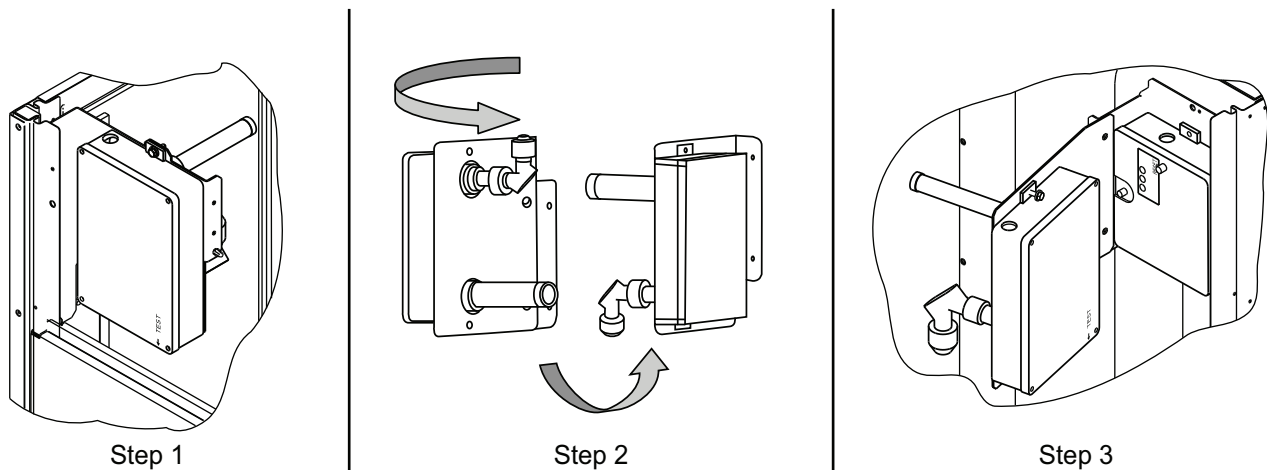

Fig. 57 — Completing Installation of Return Air Smoke Sensor
2. Unscrew the two screws holding the return-air smoke detector assembly. See Fig. 57, Step 1.
4. Turn the assembly 90 degrees and then rotate end to end. Make sure that the elbow fitting is pointing down. See Fig. 57, Step 2.
5. Screw the sensor and detector plate into its operating position using screws from Step 2. See Fig. 57, Step 3.